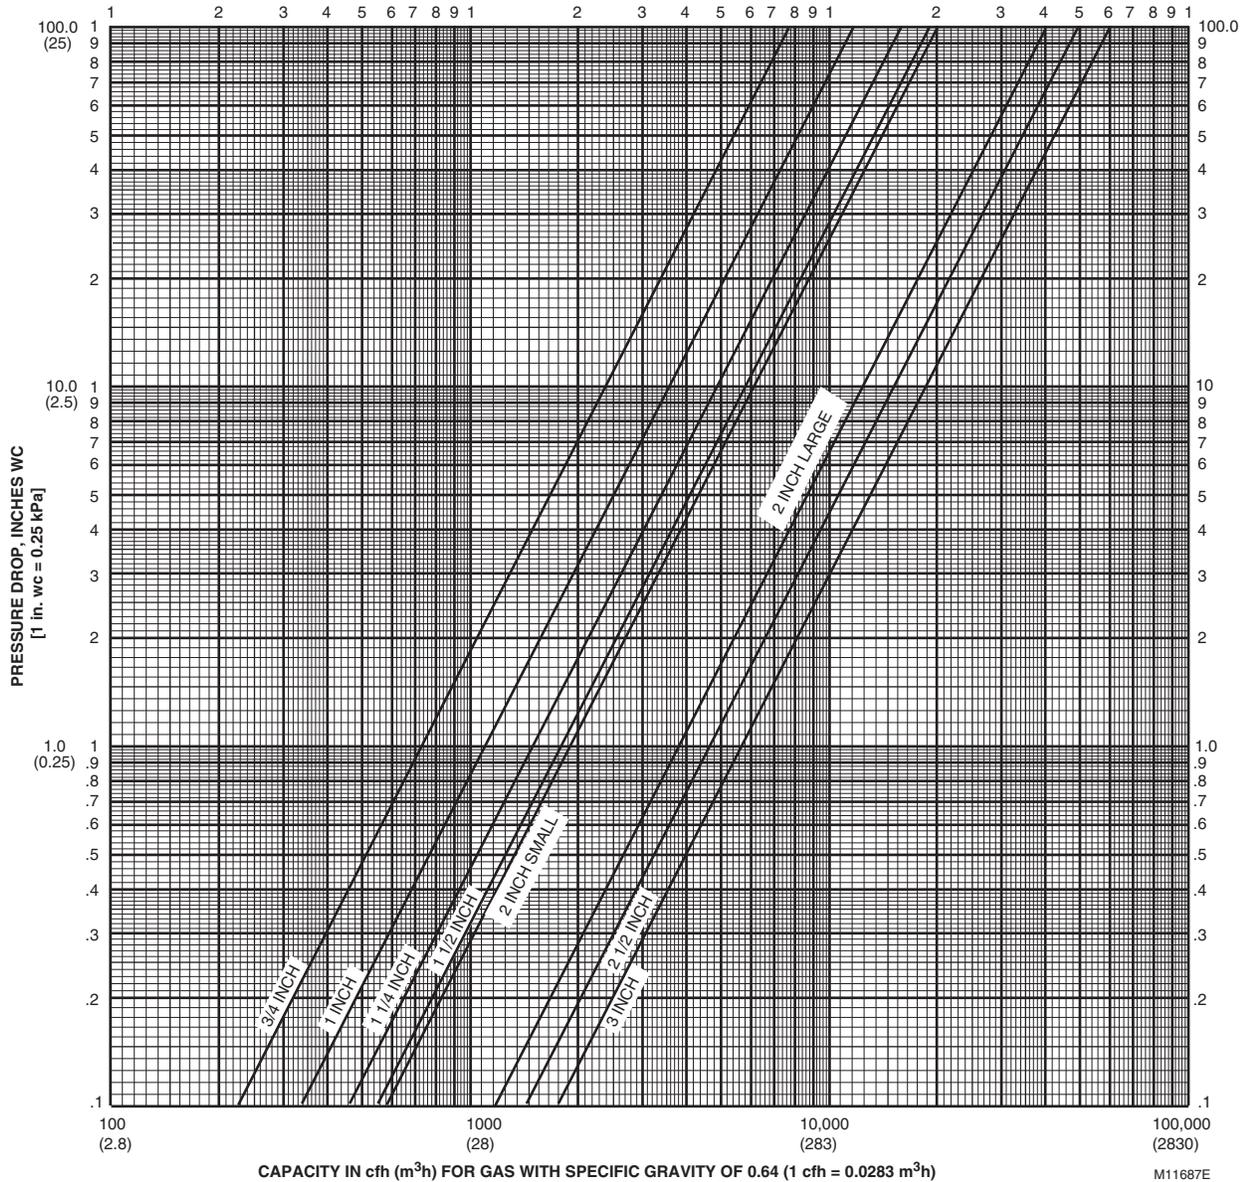

Fig. 4. Flow curves for V5097 valves.
5. Use the cfh capacity (for 0.64 or the corrected cfh from step 4) for determining the gas valve size in Fig. 4.
6. Determine the available pressure drop across the valve and draw a horizontal line at this pressure in Fig. 4.
7. Draw a vertical line in Fig. 4 at the capacity (cfh) previously determined. Use the corrected capacity for a gas with a specific gravity other than 0.64.
8. Use the valve size at the intersection of the horizontal and vertical lines. If the intersection is between valve sizes, use the next larger valve size in Fig.4.
Applying this number to Fig. 4, assuming a 1 in. wc pressure drop, use a 2 in. (large body) V5097 Valve for that flow (step 8 of Gas Valve Sizing).